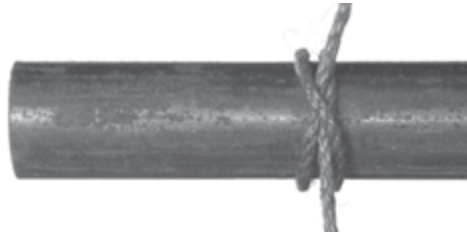

Figure 1 Image for Question 7
7. The knot, hitch or bend illustrated in Figure 1 is a _____.